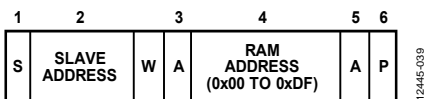

Figure 41. Setting a RAM Address for a Subsequent Read
The SMBus specification defines several protocols for different types of read and write operations. The following abbreviations are used in Figure 41 to Figure 49:
- To write a register address to the RAM for a subsequent single-byte read from the same address, or for a block read or block write starting at that address, as shown in Figure 41.